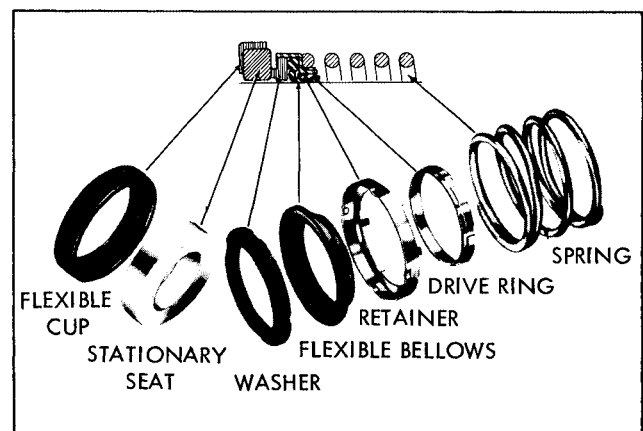

Figure 1. Mechanical Seal
- I. Slide one seal lock collar (54) with setscrews (55) facing the impeller onto each end of the shaft. Position on scribe mark made during disassembly and lock in place.
- III. Place the seal's spring, drive ring, retainer, flexible bellows, and washer on the shaft sleeve in respective order. (Refer to Figure 1.)
- IV. Thoroughly inspect cavity of seal gland (49) for burrs or nicks which would damage seat of
V. Place "O" rings (50) around the seal glands and slide seal glands onto the ends of the shaft.
I. Place one seal seat in collar (54), the other one fits into seal gland (49). These parts are set into their cavities in the same manner as they are with a single seal.
II. Place "O" rings (51) around collars (54) and put the collars with stationary seats facing away from impeller on ends of the shaft, then slide flexible bellows, washers, and springs on the shaft in order shown in figure 1, for each half of double seal assembly (53).